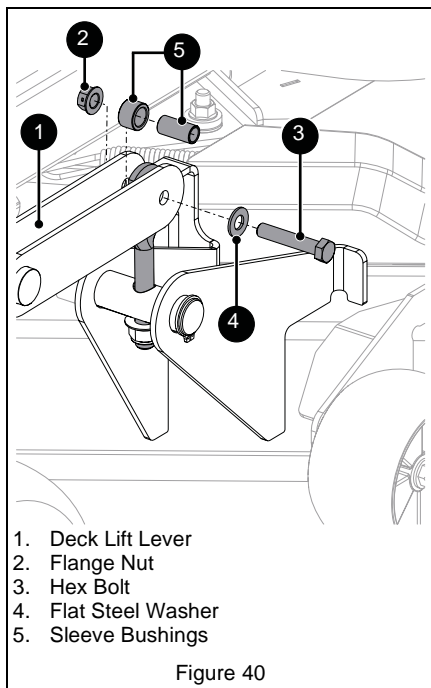

Figure 40
8. Remove one flange nut, one hex bolt, one flat steel washer and two sleeve bushings from deck lift lever. Retain hardware. See Figure 40.